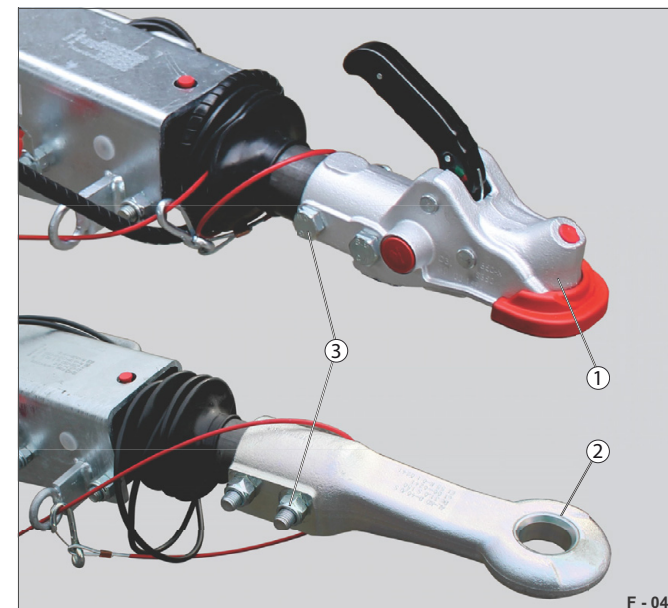

Fig. 45 Variants
- The coupling can be changed by the customer: Drawbar coupling / towing ring (see Fig. 45).